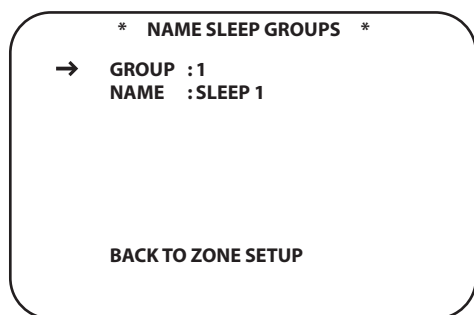

Figure 64.
1. From ZONE SETUP PAGE 1, with the cursor next to NAME SLEEP GROUPS, press the **Set Button 18**. The NAME SLEEP GROUPS screen will appear (Figure 64).